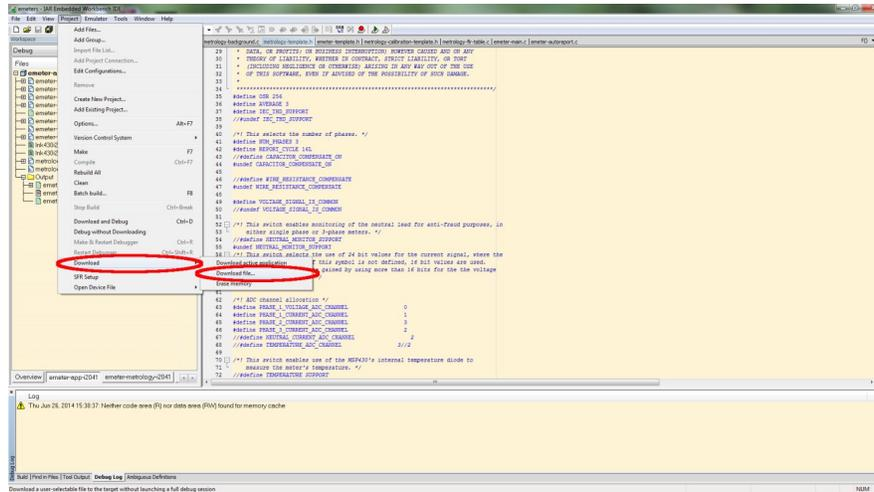

Figure 33. Download Executable File
2. Select *Project*→*Download*→*Download File...* from the menu (see Figure 33).